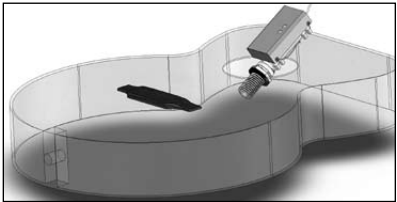

FIGURE 1
3. Insert the Load 'N Lock module into the inside of the guitar and through the new hole with the inner nut installed and thick rubber washer threaded in place (refer to figs. 1, 2 and 3).